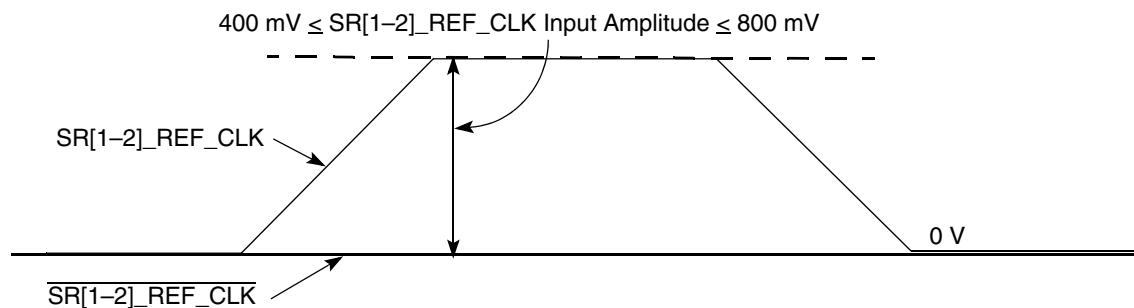

Figure 9. Single-Ended Reference Clock Input DC Requirements
- The $SR[1-2]_{REF_CLK}$ input average voltage must be between 200 and 400 mV. Figure 9 shows the SerDes reference clock input requirement for single-ended signalling mode.